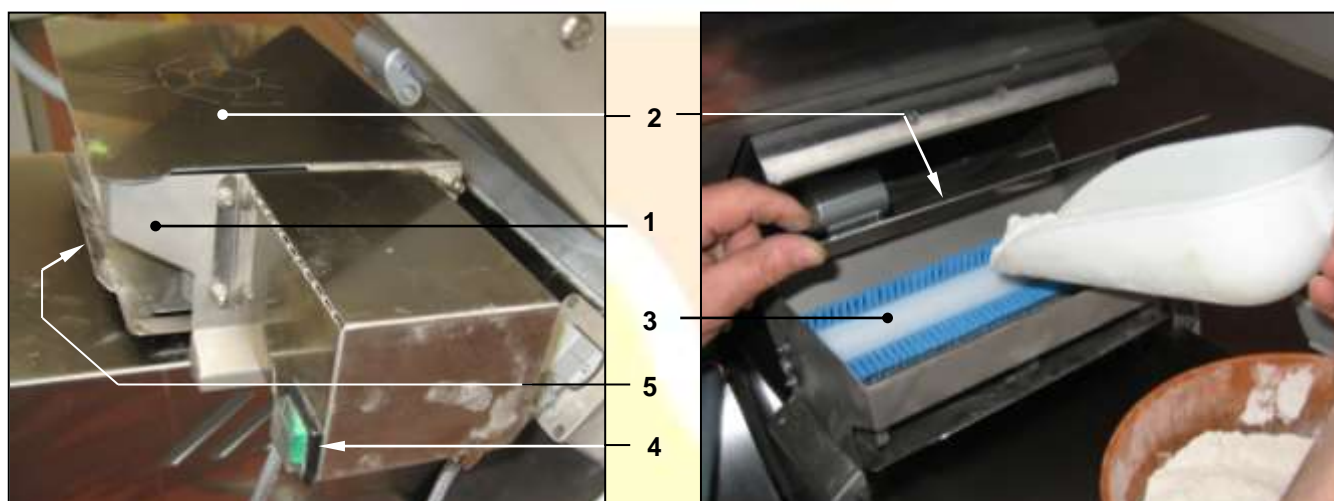

Figure 20 - Feeding flour into the flour duster and regulating the quantity of flour released
1. With reference to Figure 20, if the machine is equipped with a flour duster ref. 1 (see par. 3.4) and if the product requires dusting with flour, life the cover ref. 2 and use a scoop to put the flour gradually into the small hopper ref. 3 without making sudden movements to prevent spreading the dust into the surrounding environment and minimise the risk of inhalation, as already indicated in par. 3.9.1, point 2.